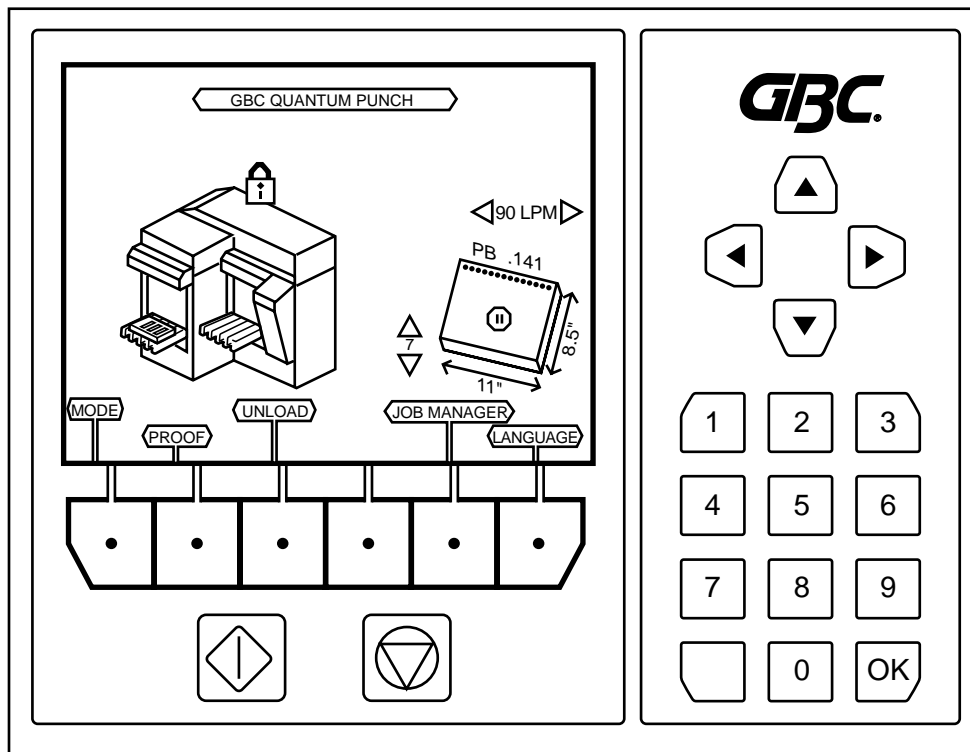

**Figure 3**
**Helpful Hint:** The GBC Die Set Storage Cabinet #7703207 is an excellent way to store all of your interchangeable die sets for the Quantum P70iX (see figure 3). This special product securely holds three die sets, protecting them from dirt, dust, and accidental damage. Contact your sales representative for information on obtaining a Die Set Storage Cabinet.